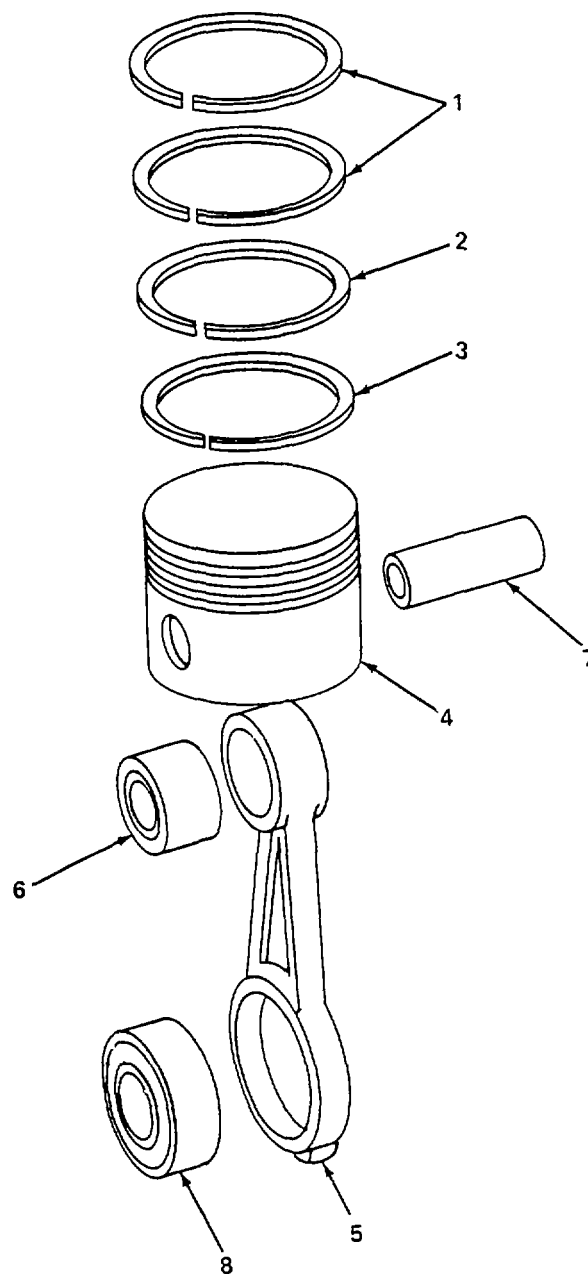

Figure 6-3. First Stage Piston and Connecting Rod Assembly, Repair.
- (1) Install third stage cylinder (para 6-12).
- (2) Install second stage cylinder (para 6-10).
- (3) Install first stage cylinder (para 6-8).
- (4) Install fanwheel (para 5-36).
b. Repair. (figure 6-3)
- (1) Remove first stage piston and connecting rod assembly (para. a.).